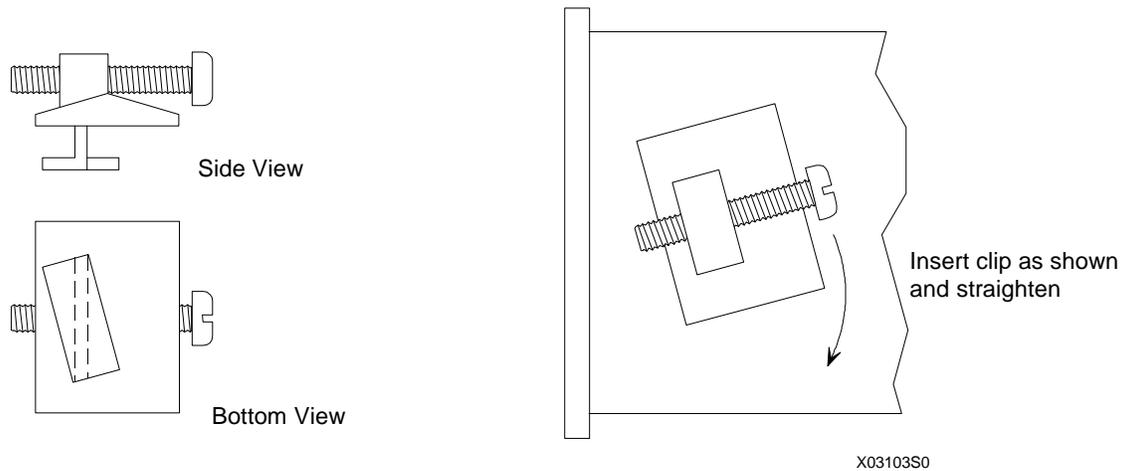

FIGURE 8-6 Case Mounting Clip
1. Locate the supplied Mounting Clip Kit. It contains two mounting clips and two 8-32 x 1" fillister head screws. Thread the mounting screws into the mounting clips. See Figure 8-6.